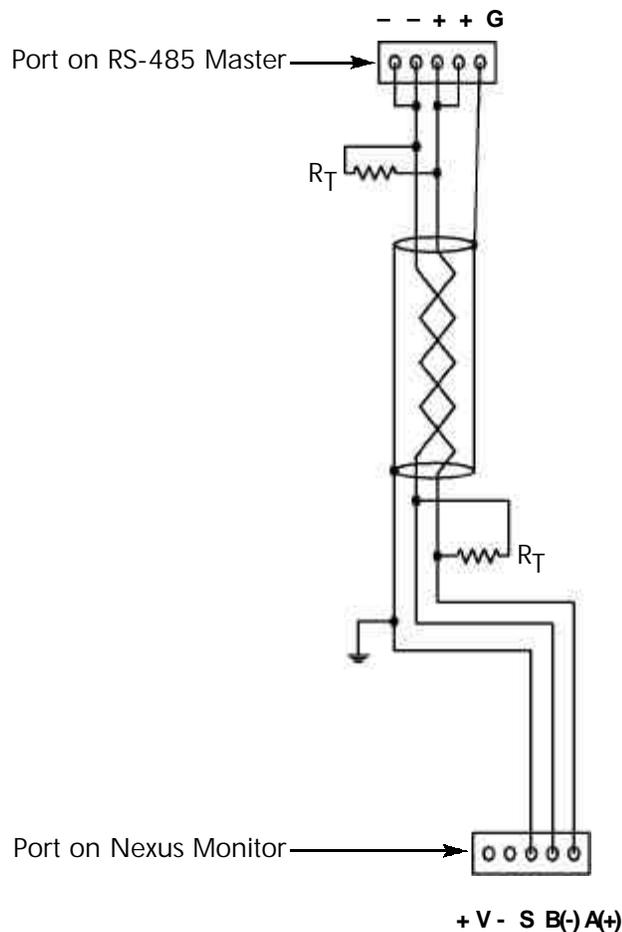

Figure 5.9: Nexus Monitor Connected to an RS-485 Master
- Insert the other end of the cable into the I/O module's female RS-485 side port (see Figure 5.9). The connectors fit only one way into the ports.
- Connect the A(+) and B(-) terminals on the Nexus to the A(+) and B(-) terminals of the female RS-485 port. Connect the shield to the shield (S) terminal. The (S) terminal on the Nexus is used to reference the Nexus port to the same potential as the source. It is not an earth ground connection. You must also connect the shield to earth-ground at one point.